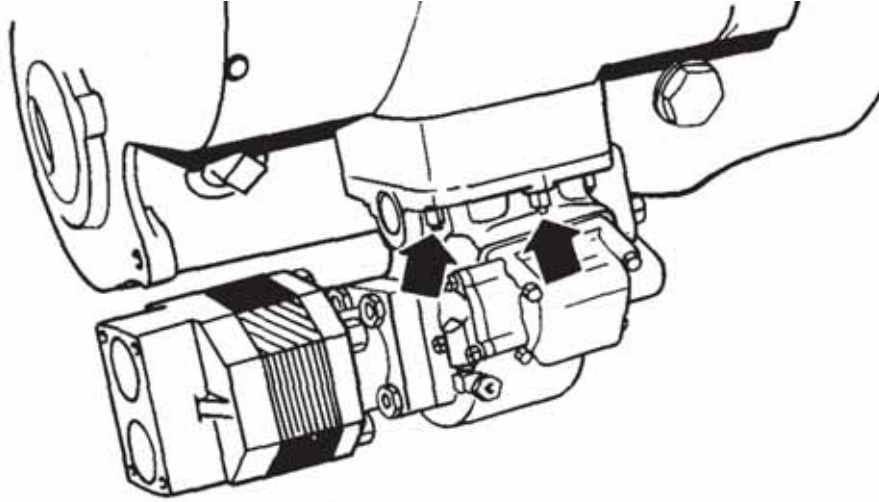

Figure 5 Location of Retaining Nuts
- e. Remove the six nuts and washers (Figure 5) securing the PTO and adapter to the transmission.